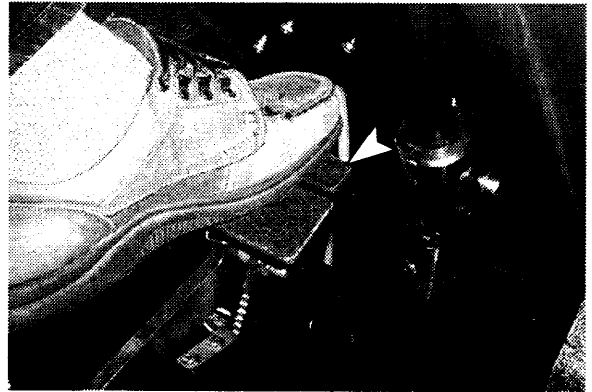

Figure 18
6. Press brake pedal to release parking brake pedal (Fig. 18).